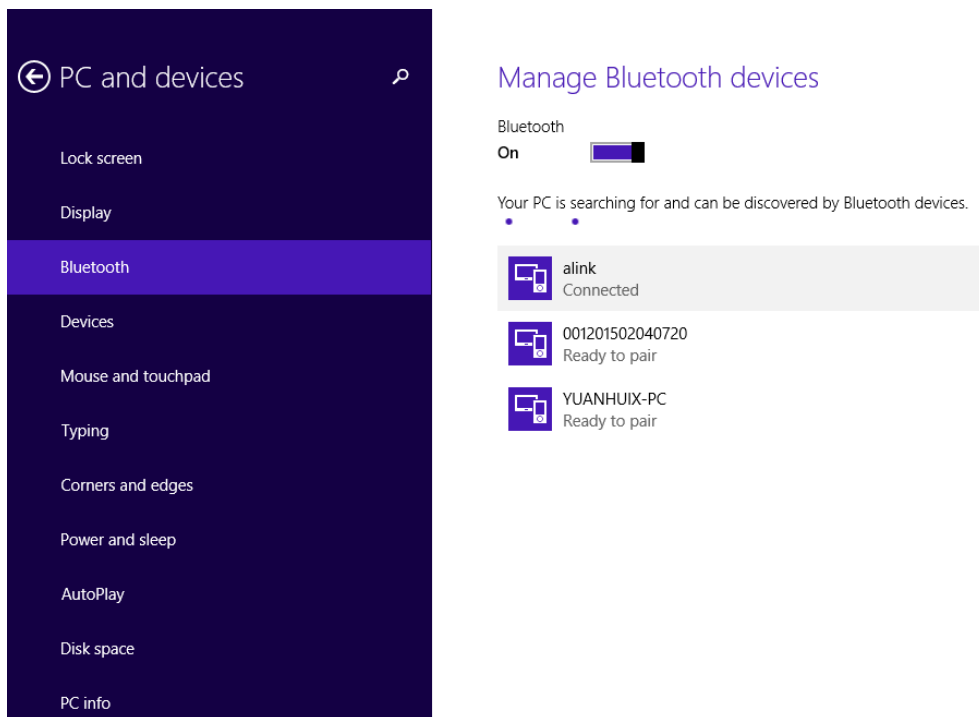

Figure 14 Connect successfully
Step 5: If connect successfully, it is shown as Figure 14. At the same time, the LED on the ALX41X module will light on.